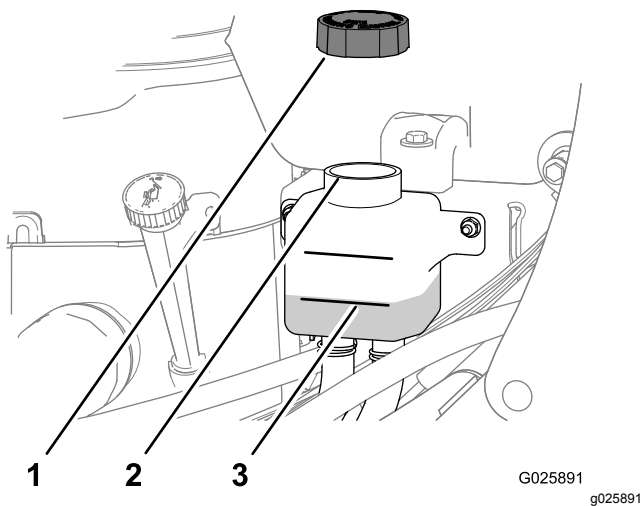

Figure 43
3. Remove the cap from the expansion tank and check the transmission-fluid level in the tank (Figure 43).
4. If necessary, add the specified transmission fluid until the fluid level is at the FULL COLD fill line of the expansion tank (Figure 43).